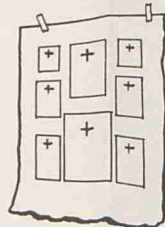

Figure 9
Place the screw eyes within the upper one-fourth of the frame edge so the picture will hang flat. Stretch picture wire through the screw eyes and fasten it securely. Place a thumb tack or a small piece of foam rubber or cork at each lower corner. This helps the picture hang straight. (Fig. 9)
It may be helpful to use a large piece of paper to decide how to place a group of pictures. Lay the paper on the floor. Move the pictures around on the paper until you have a pleasing, well-balanced arrangement. Draw around the pictures. Then place the paper on the wall to find the spot for hanging each picture (Fig. 9).
F. Stitch the cording and hand tabs to the boxing on the right side. Use cording foot attachment to stitch covered cording on the right side. Figure 9 shows this step completed.